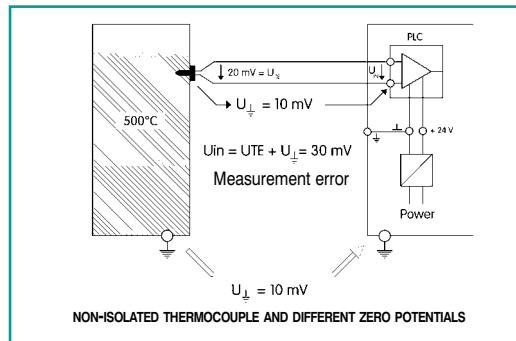

fig.3
- isolates and separates electrically the circuit of the sensor from the control and power supply circuits. Thus each circuit operates with reference to its own zero potential which, being isolated from the other circuits, cannot be altered by the differences in potential always present between different earth references (Figs. 3 and 4)